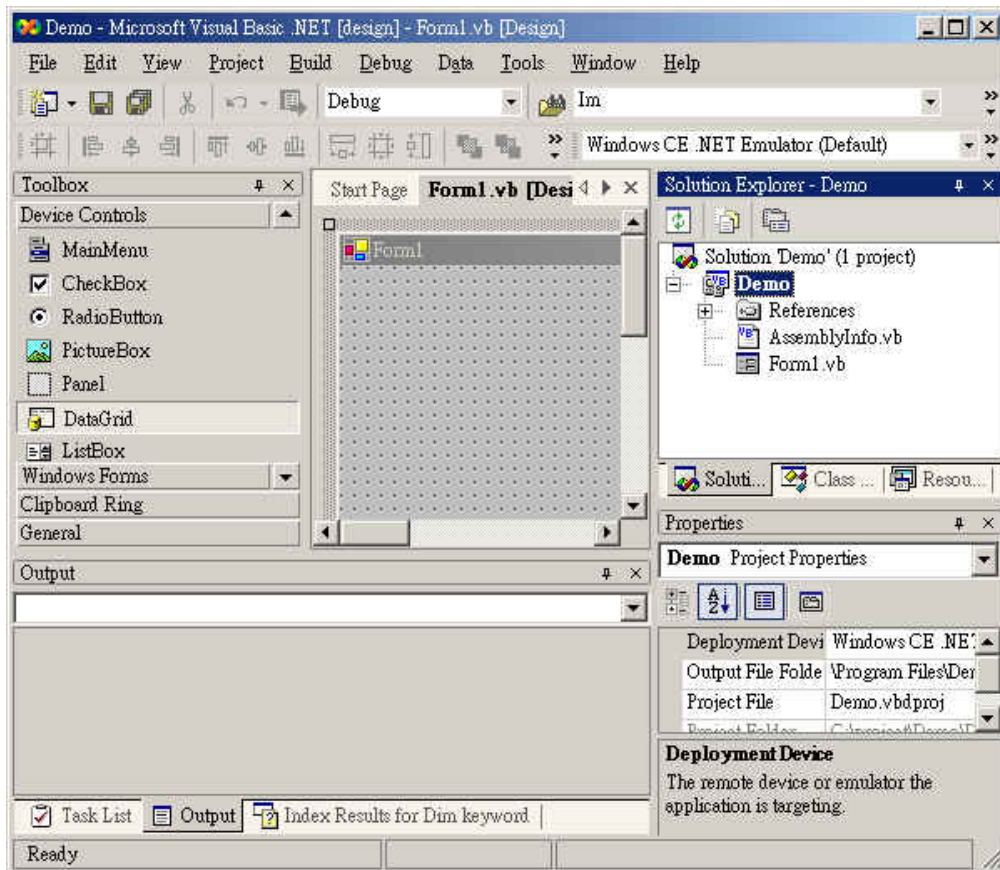
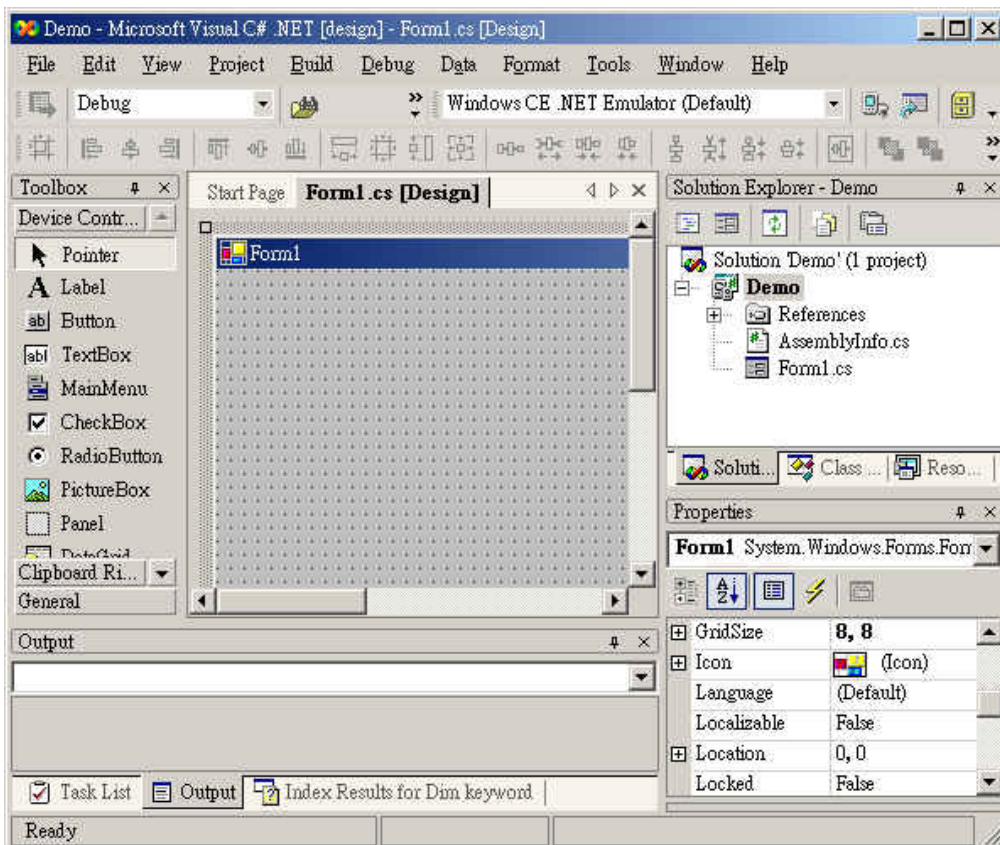

Fig. 5-2-3a
Fig. 5-2-3b
10. You should now be looking at a Visual Basic .NET(C# .NET) application that looks somewhat like Figure 5-2-3a (Figure 5-2-3b for C#.NET). Your window arrangement may quite likely be different since Visual Studio remembers the layout you've configured in the past when developing other projects.